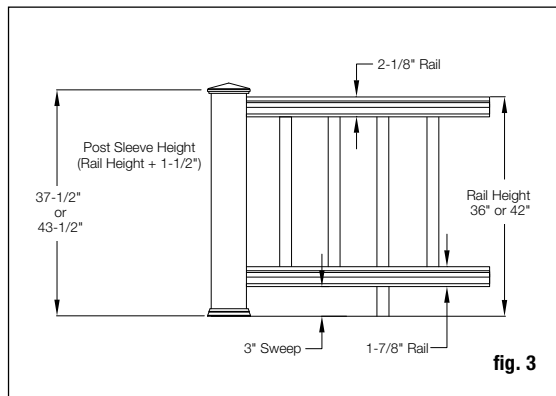

fig. 3
Step 5 Trim 4x4 post sleeves to length. Post sleeves should be a minimum of 1-1/2" longer than the railing height to accommodate a post cap (fig. 3, following page). Example: For a 36" high railing, trim post sleeve to a minimum of 37-1/2", or longer if desired. Slide a trimmed post sleeve over each 4x4 railing post. Use shims as needed to create a snug fit. Slide a post base trim over each post sleeve.
Step 8 Assemble the lower inner rail and support block assembly. A support block is needed every 2' on-center. Check building codes for a maximum spacing between deck surface and bottom of rail (sweep). A 3" sweep is recommended, but can be more or less if codes allow (fig. 3). Trim support blocks to desired height and pre-drill 1/8" holes in the proper locations. Holes must be centered on the inner rail for support blocks to fit properly. Using the support block connectors, fasten support blocks to the underside of the inner rail.
Step 10 Determine the length of the balusters. Figure 3 illustrates how a 36"-high railing might be sized. Starting with a 3" sweep + 2" for the bottom railing, 29" baluster height + 2" for the top rail = a 36" rail height. Use 29" balusters for a 36" rail height. Use 35" balusters for 42" railings. If you want to have your railing at a different height, use figure 3 as a planning tool to determine the height to cut the post sleeves and the balusters.